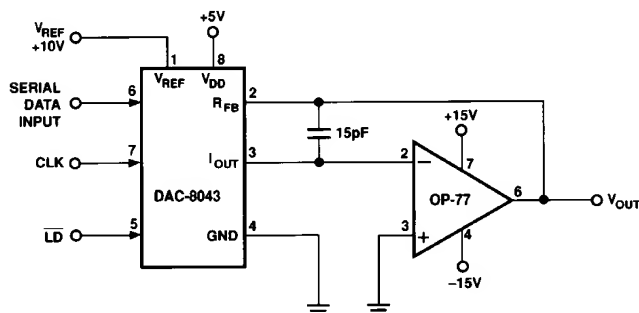

Figure 5. Unipolar Operation with High Accuracy Op Amp (2-Quadrant)
1. Phase compensation (see Figures 5 and 6).
In most applications, linearity depends upon the potential of I_{OUT} and GND (pins 3 and 4) being exactly equal to each other. In most applications, the DAC is connected to an external op amp with its noninverting input tied to ground (see Figures 5 and 6). The amplifier selected should have a low input bias current and low drift over temperature. The amplifier's input offset voltage should be nulled to less than +200 μ V (less than 10% of 1 LSB).
The circuit shown in Figures 5 and 6 may be used with an ac or dc reference voltage. The circuit's output will range between 0 V and approximately $-V_{REF}$ (4095/4096) depending upon the digital input code. The relationship between the digital input and
¹Nominal full scale for the circuits of Figures 5 and 6 is given by
²Nominal LSB magnitude for the circuits of Figures 5 and 6 is given by
The transfer function for the DAC 8043 connected in the multiplying mode as shown in Figures 5, 6 and 7 is: